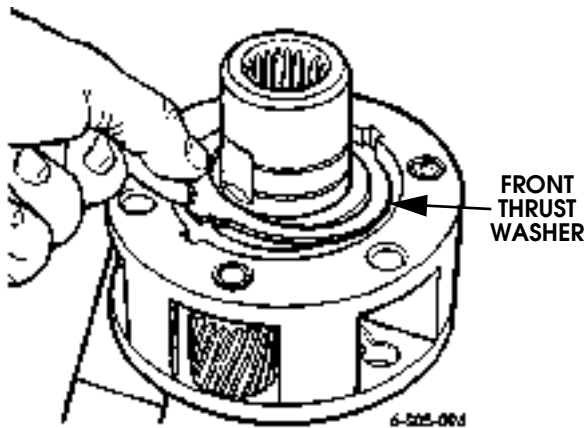

Figure 5-130: Front Thrust Washer Installation
- c. Install input gear in planetary (Figure 5-130).
- d. Install front thrust washer. Be sure washer tabs are seated in planetary notches as shown (Figure 5-130).